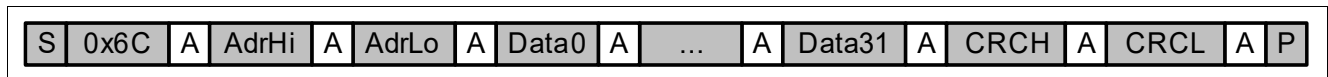

**Figure 22** I2C Legend - PROGRAMMING Mode
**Figure 22** shows the nomenclature for the I2C commands.